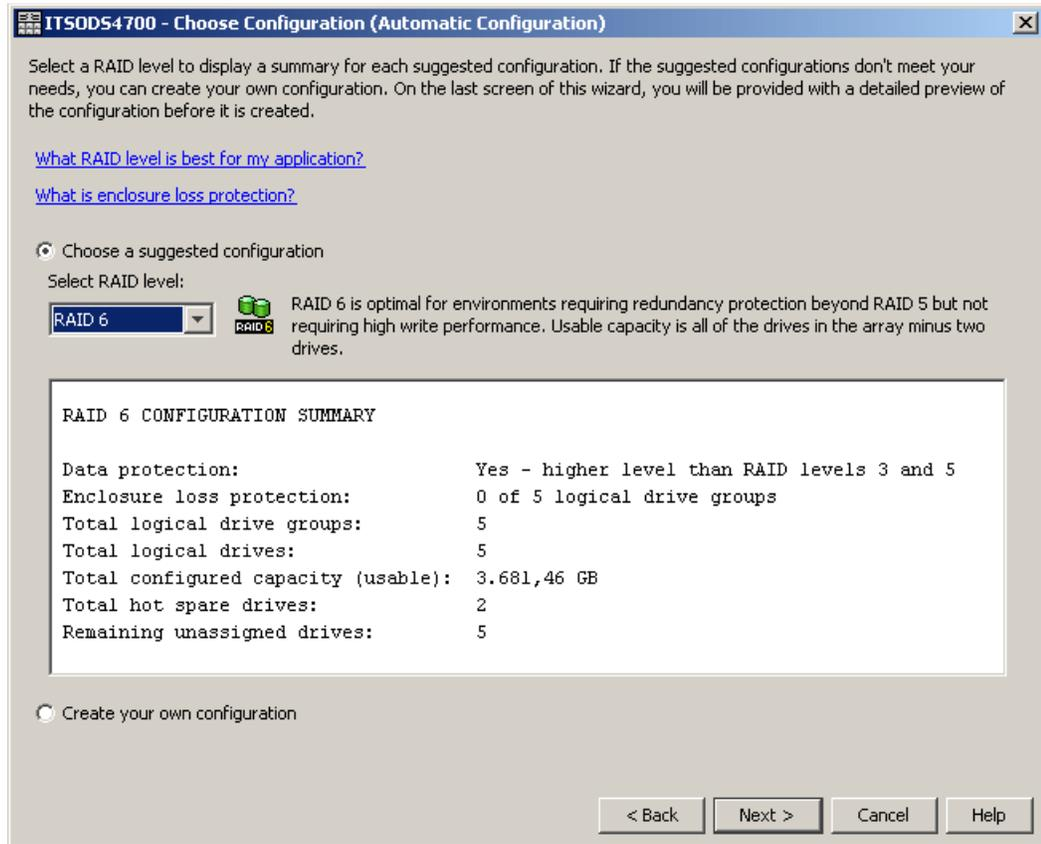

Figure 5-42 Choosing configuration
3. In the window that follows, choose between a suggested configuration, selecting the RAID level desired, or create your own configuration (Figure 5-42).